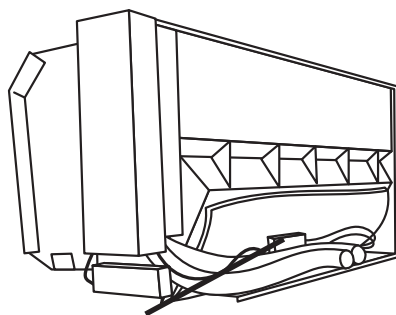

Fig. 5 Secure power supply.
- Tuck the power supply into the line chase on the back of the AC unit or place it under the control box or other secure location. (Figure 5.)